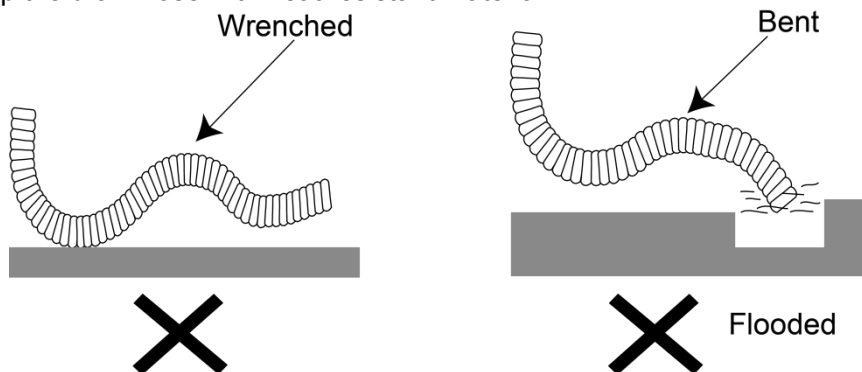

Fig 4.4
- (1) For proper draining, the drain hose should be placed at a downward sloping.
- (2) Do not wrench or bend the drain hose or flood its end by water. (Fig.4.4)
- (3) Wrap the drain hose with heat resistant material.